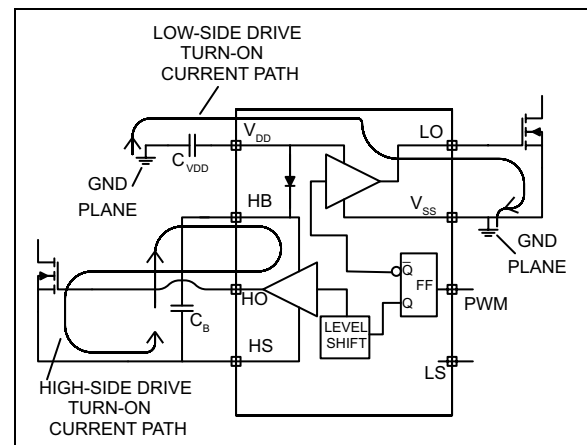
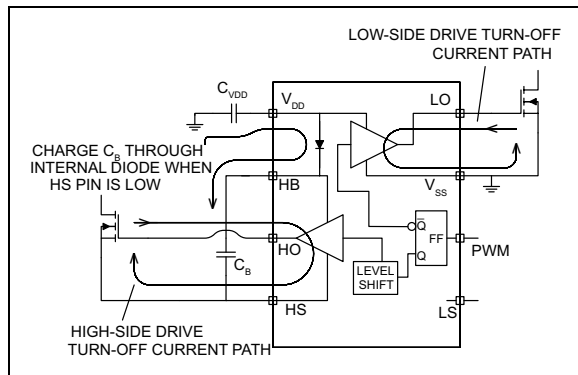

FIGURE 6-5: Turn-On Current Paths.
FIGURE 6-6: Turn-Off Current Paths.
Figure 6-5 shows the critical current paths when the driver outputs go high and turn on the external MOSFETs. It also shows the need for a low impedance ground plane. The charge needed to turn-on the MOSFET gates comes from the decoupling capacitors C_{VDD} and C_B . Current in the low-side gate driver flows
Figure 6-6 shows the critical current paths when the driver outputs go low and turn off the external MOSFETs. Short, low impedance connections are important during turn-off for the same reasons given in the turn-on explanation. Current flowing through the internal diode replenishes charge in the bootstrap capacitor, C_B .
- Trace out the high d_i/d_t and d_v/d_t paths, as shown in Figure 6-5 and Figure 6-6 to minimize the etch length and loop area for these connections. Minimizing these parameters decreases the parasitic inductance and the radiated EMI generated by fast rise and fall times.